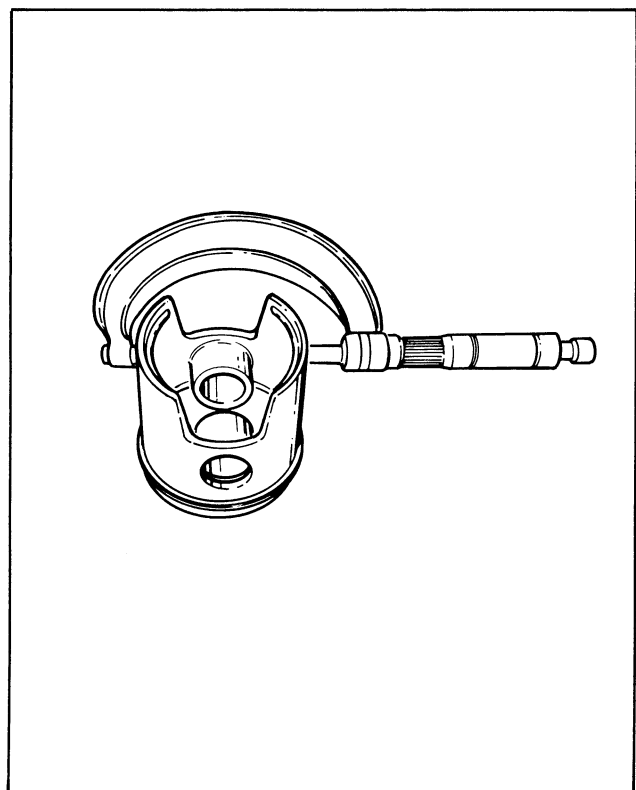

Figure 59 – Measuring Piston
- d. See Figure 59. Measure piston at bottom of skirt, 90° from piston pin bore.